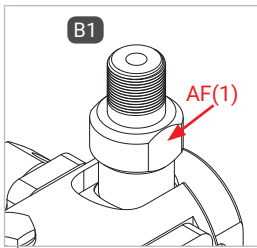

Figure 1
- ▶ When mounting the filling hose, hold an open-ended spanner against the spanner flat AF(1) (Figure 1).
- ▶ Screw the media inlet "B1" pressure-tight onto the connection port of the filling hose (Figure 1). For the tightening torque, please refer to the table below. **Note:** For NPT thread, first wrap Teflon tape round the tapered screw fitting (1.5 layers). Screw it finger-tight into the port and install it in accordance with the information in the table below.